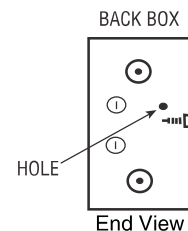

Figure 4
5. Using four (4) wood screws or drywall screws (field supplied) or four (4) nails (field supplied), secure back box to studs (see Figure 1B). If wall studs are greater than 16"oc., use only 2 fasteners and on the opposite end of the back box drive a 1" sheet metal screw (provided) through hole in end cap. This will draw the back box tight with drywall when grille is installed. (See Figure 4.)